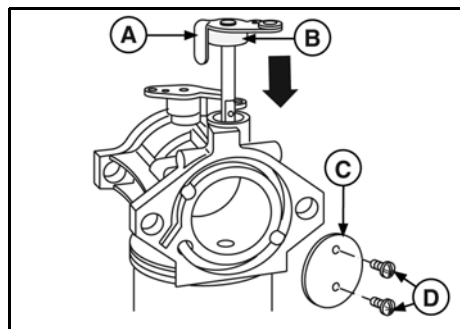

Figure 66
7. Install foam washer (B) to throttle shaft (A, Figure 66). Install throttle shaft to the carburetor body. Turn throttle shaft until flat is facing out.
8. Lay the throttle plate (C) on the flat of the shaft. Install two screws (D).